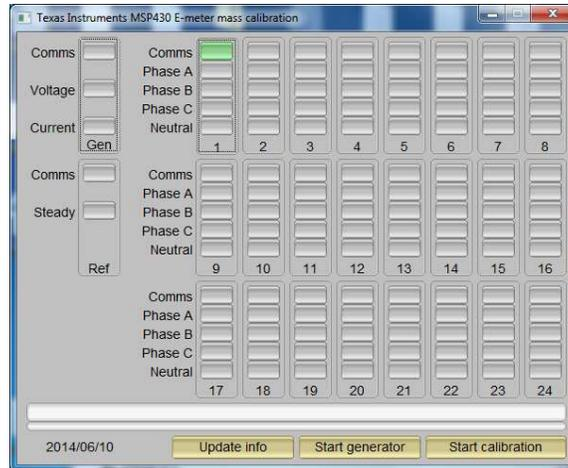

图 16. GUI Startup Window
- Run `calibrator.exe`, which is located in the GUI folder. If the COM port in `calibration-config.xml` was changed in the previous step to the com port connected to the EVM, the GUI opens (see 图 16). If the GUI connects properly to the EVM, the top left button is green. If there are problems with connections or if the code is not configured correctly, the button is red. Click the green button to view the results.